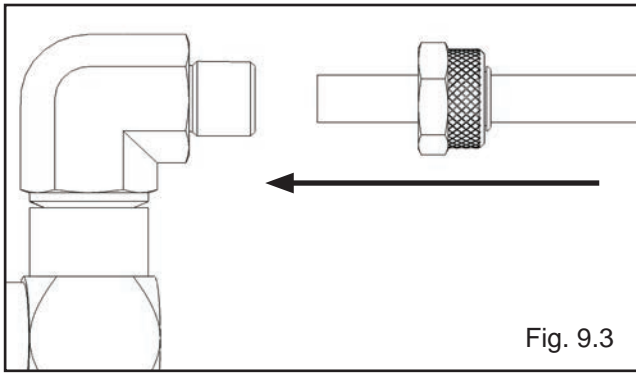
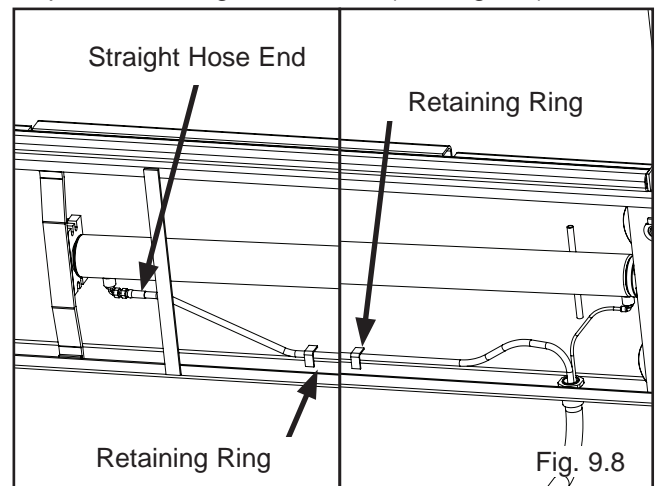

Fig. 9.3
Fig. 9.8
2. Remove the captive nut on the Compression Fitting. Insert the Plastic Air line through the alignment sleeve and into the end of the fitting until it bottoms out. Then tighten the nut on the fitting. (See Fig 9.3)
7. Connect the hydraulic hose and air line as shown below making sure the hydraulic hose passes through the retaining rings. **MAKE SURE HOSES ARE KEPT CLEAR OF CABLES.** There will be one air line hose left unconnected in this step. This air line will be used to activate the pneumatic safety locks in the next step. See Fig 9.3 for Compression Fitting instructions. (See Fig. 9.8)